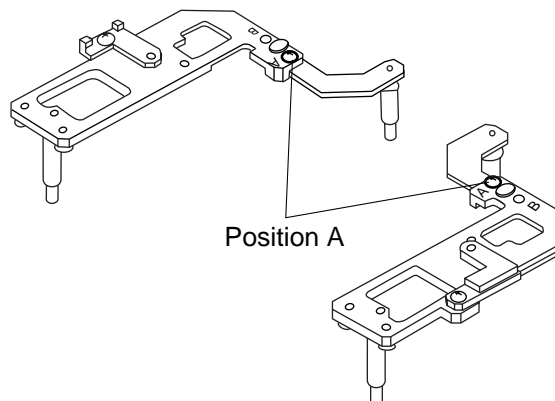

Figure 3-408
- 3) Extend the arm accommodated by the main frame unit it butts against the stopper as in Figure 3-408.